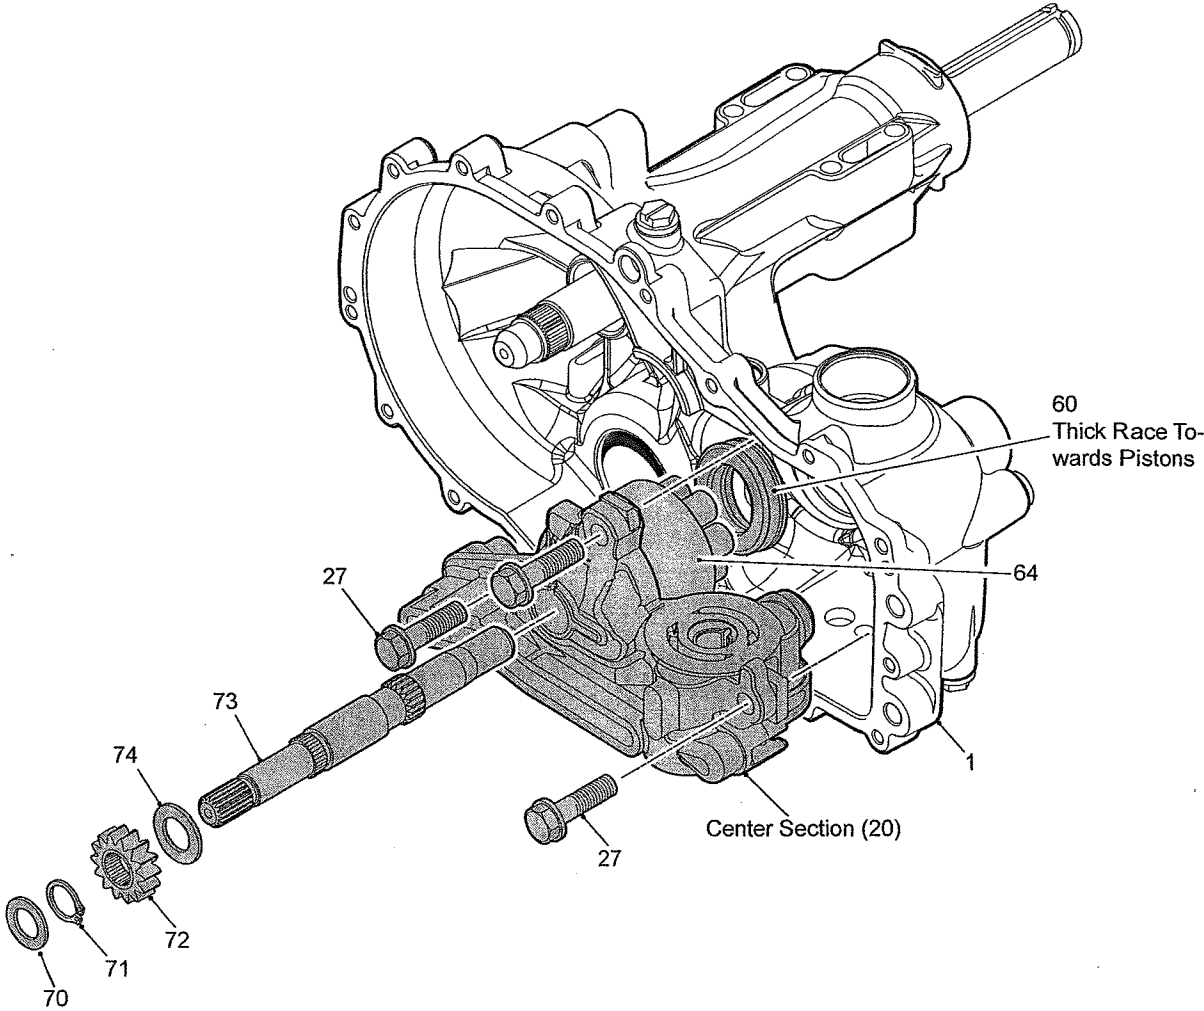

Figure 21, Center Section
Refer to Figure 21
In order to gain access to the check plugs (24 & 25), it is necessary to remove the plug seals (26). This is accomplished by inserting a seal hook or puller into, and through, one of the insertion points (*rectangular recesses*) on the plug seal, refer to figure 21. After successfully removing the plug seals, discard and replace with new seals.